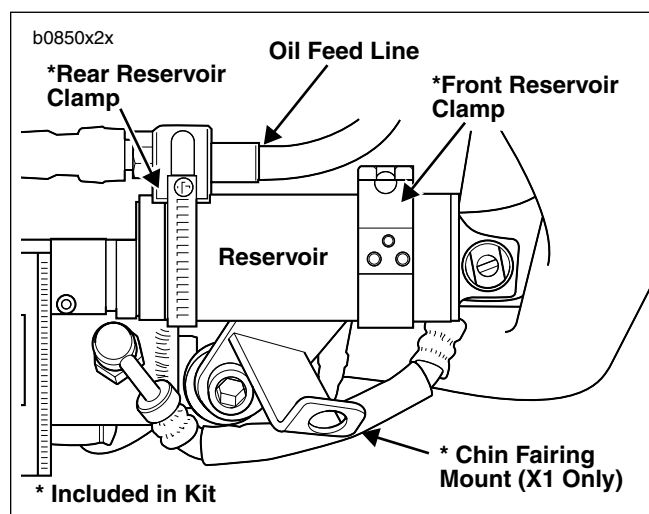

Figure 3. Reservoir Clamps (X1 Model Shown)
10. See Figure 3. Loosely install **new** rear clamp around reservoir and oil feed line.